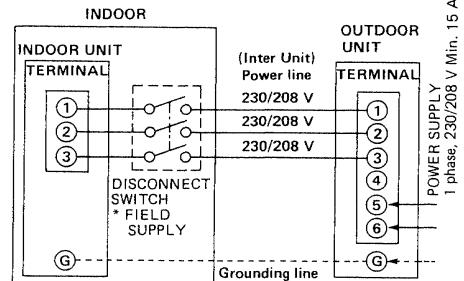

Fig. 21
- Refer to the wiring diagram in Fig. 21, which is labelled on the access panle.